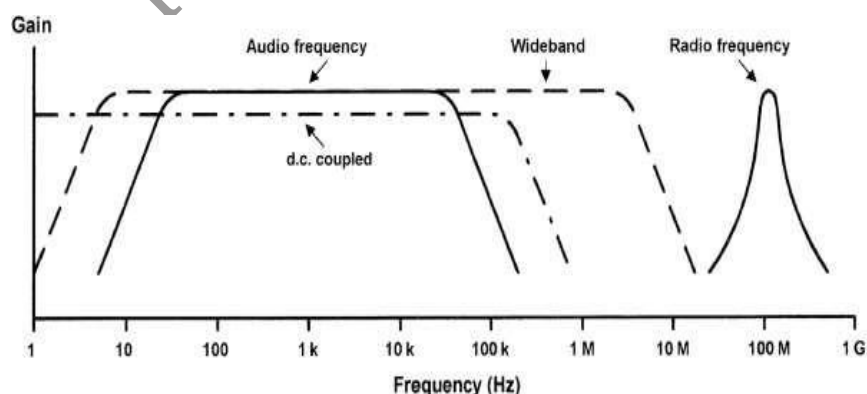

Figure 1.21 Frequency response and bandwidth (output power plotted against frequency)
- The frequency response characteristics for various types of amplifier are shown in Fig. 1.21.